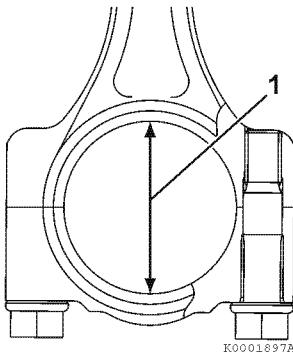

Figure 6-57
2. Inspect the bearing insert for separation or damage (**Figure 6-57**).
4. Measure the inside diameter (1, **Figure 6-57**). Record the measurement. Compare the measurement with crankshaft rod journal outside diameter to calculate oil clearance. See *Crankshaft* on page 6-7 and *Piston* on page 6-9 for specifications.